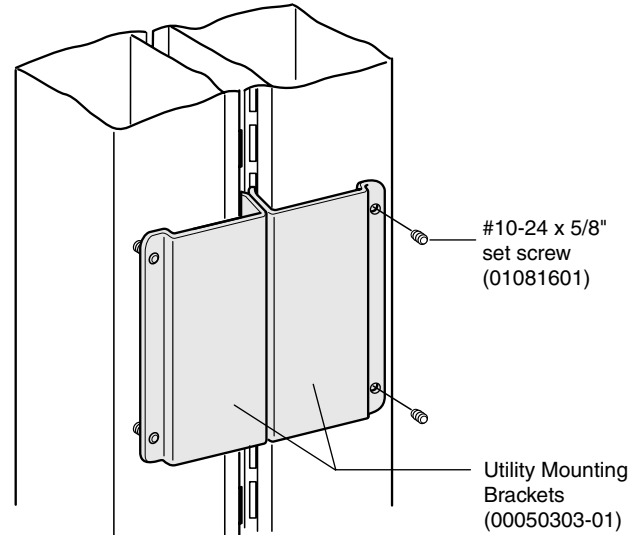

Figure 1
1. Install clip end of one bracket into hanger frame at frame joint. Install second bracket in adjacent hanger frame. Make sure brackets are securely seated in frame. (Figure 1)
2. Install two #10-24x5/8" set screws into the tapped holes on each bracket. Tighten until plates are flush. (Figure 1)